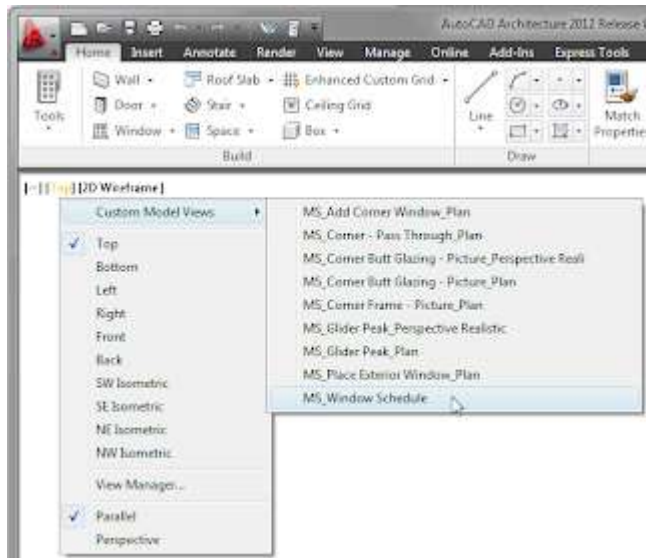

Fig.1.6- 1-View Port.
2. Ref. Image.Fig.1.6 → The second string allows you to quickly select a Model View to restore, either preset or custom, as well as access to the View Manager. The name of the current View direction or Model Space View (if current) is displayed in the second string, for easy reference while you work.